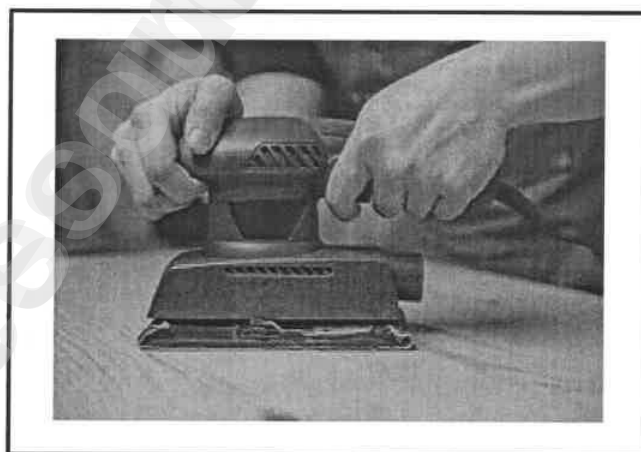

FIGURE 4.10
- 4.10 When using an orbital sander, as shown in FIGURE 4.10 below, safe handling and care is very important.